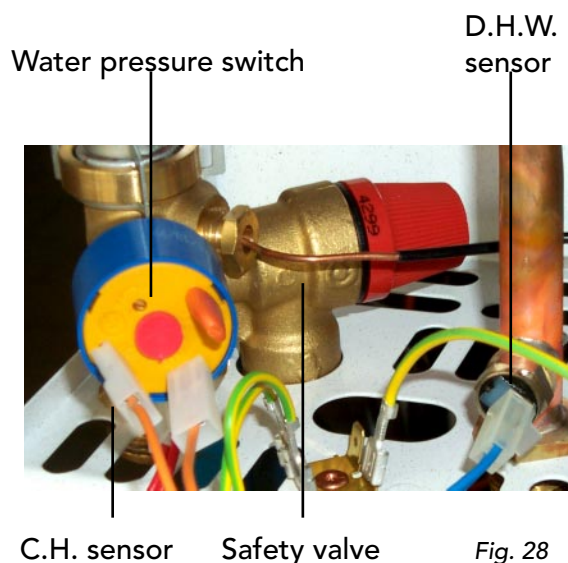

Fig. 28
## 7.06 D.H.W. temperature sensor or Central Heating Temperature Sensor (fig. 28)
- Identify the sensor from figure 28
## 7.07 Water Pressure Switch (fig. 28)
- Identify the switch from figure 28
## 7.08 Safety Valve (fig. 28)
- Identify valve from fig. 28